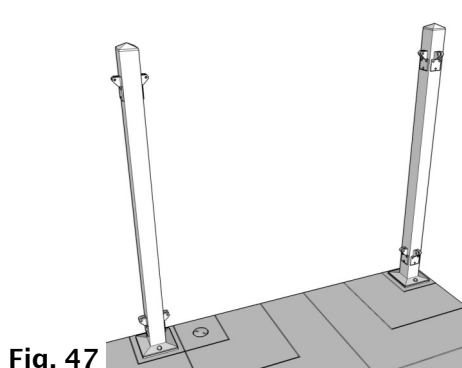

Fig. 47
22. Next, install an In-Line Post 40" from the End Post or Corner Post (Fig. 47).